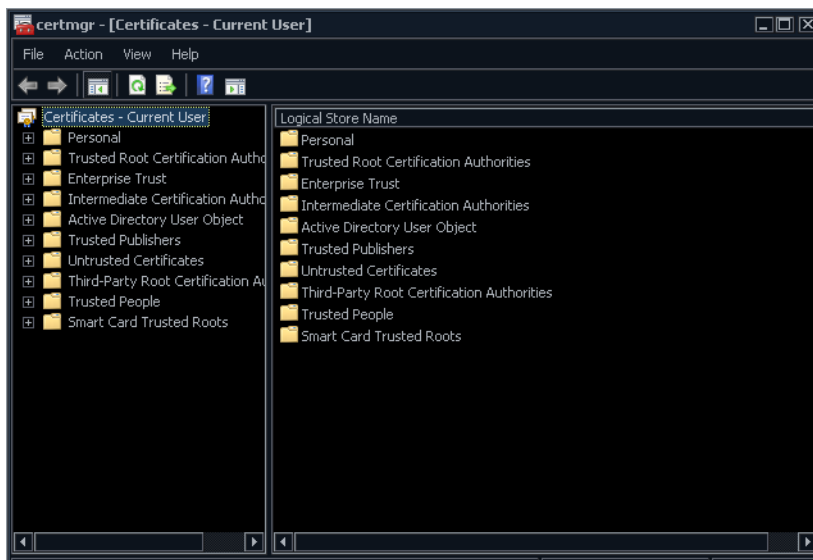

Figure 3-39 Certificate dialog
- b.) Then click on the **Certificates...** button to open the Certificate dialog, see Figure 3-39. This dialog is a standard Windows 7 Certificate Manager dialog.